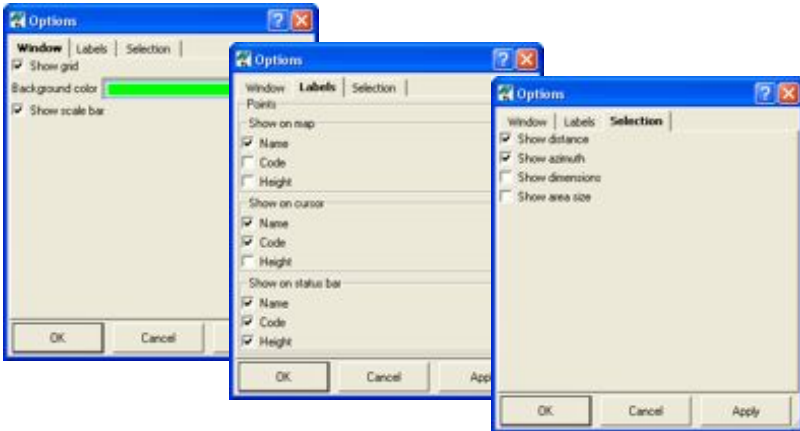

Figure 3-20. CAD View Options
2. On the **Windows** tab, check mark the desired settings (Figure 3-20 on page 3-28). Click **Apply** to apply the changes, then click **OK** to save the settings and make further changes.
3. On the **Labels** tab, enable the desired settings (Figure 3-20 on page 3-28). Click **Apply** to apply the changes, then click **OK** to save the settings and make further changes.
4. On the *Selection* tab enable the desired settings (Figure 3-20). Click **Apply** to apply the changes, then click **OK** to save the settings and make further changes.